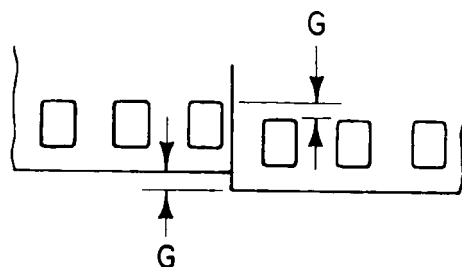

Figure 3 – Alignment dimension
**A.2** The lateral alignment that is most significant for the projection and exhibition mode of film use is the avoidance of any offset of the film edges before and after the splice, Dimension G. Therefore, for projection applications, this is the most convenient control parameter (see figure 3).